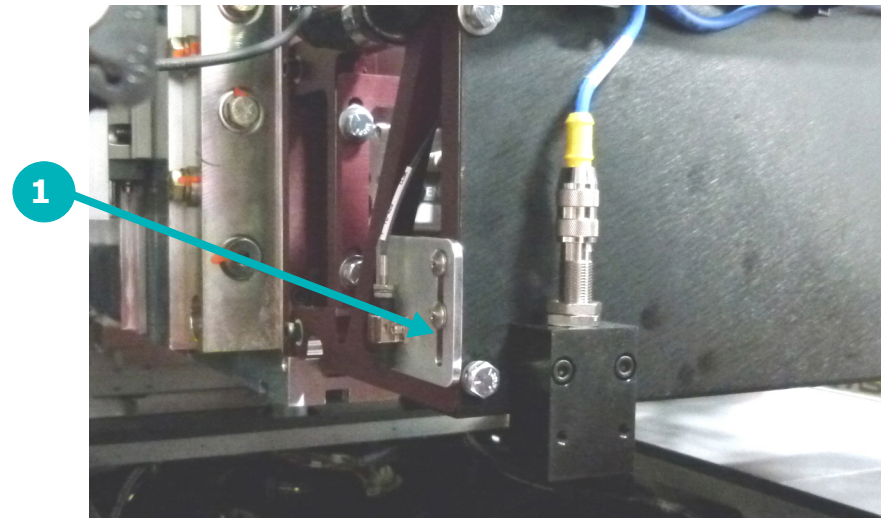

Figure 2-27: Media edge detector, carriage rear
- A. Clean media edge detector lens located at left bottom rear of carriage, Figure 2-27 using a wipe dampened with IPA.